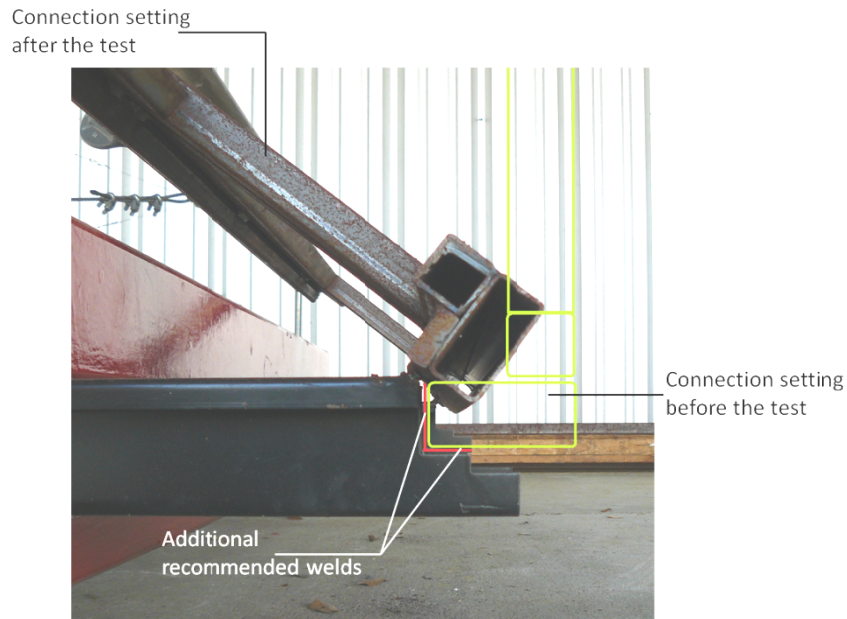

Figure 3: Wall-to-floor connection setting before and after the test, additional recommended welds have been shown.
In the original bus wall-to-floor connection the line welds connecting the two pieces were located only along the top inside edge. This resulted in significant deformation and small resistance of the connection during the bending test. For wall-to-floor connections additional welds should be placed between floor tubing and the wall horizontal channel at the lower outside edge. These additional weld spots are shown in Figure 3.
- Additional welds on outside of the connection are recommended to improve the strength of the wall to floor connection (see Figure 3).